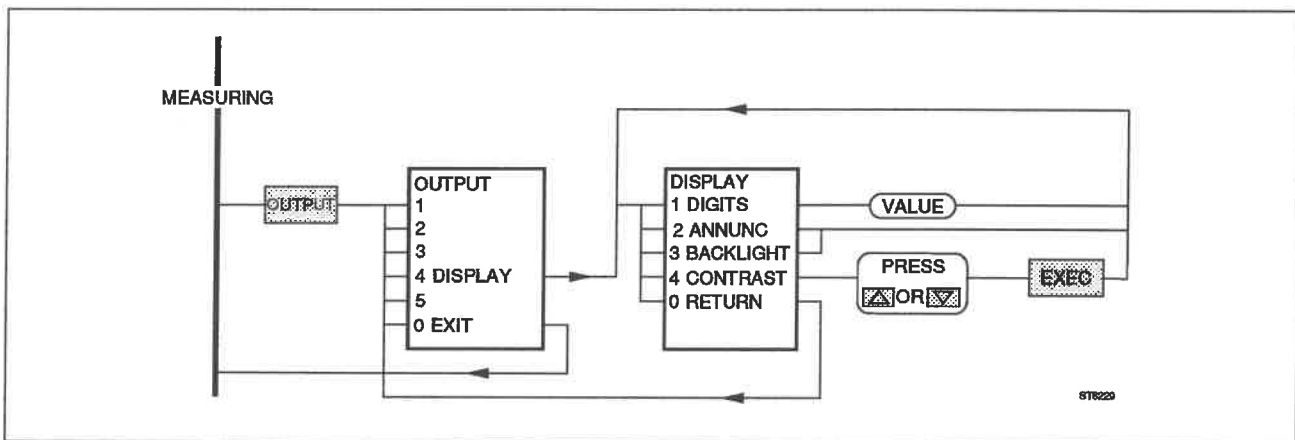

Fig. 4.65 DISPLAY control menu.
- press **OUTPUT** to invoke the OUTPUT menu (see Fig. 4.65).